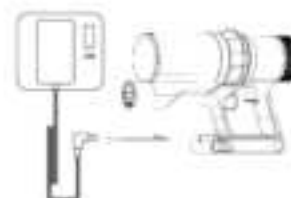

Fig 1. Direct
1. Place output plug of the adapter into the hole in the wall bracket and arrange the cable according to the track provided(Fig 1).
1. There are 3 options to charge your vacuum cleaner (Fig 1, 2 and 3).